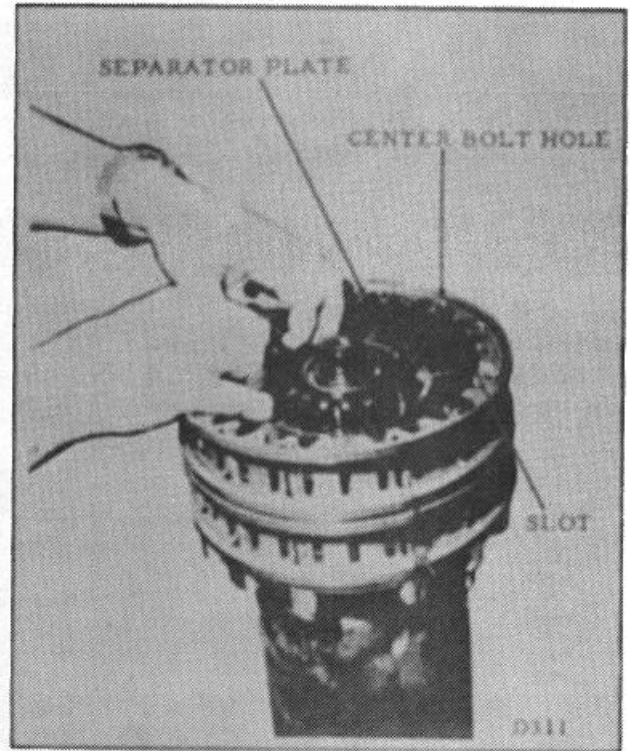

Figure 29.
**NOTE: All but the last separator plate are installed as shown in Figure 29. Place the last plate on top of the springs as shown in Figure 30.**